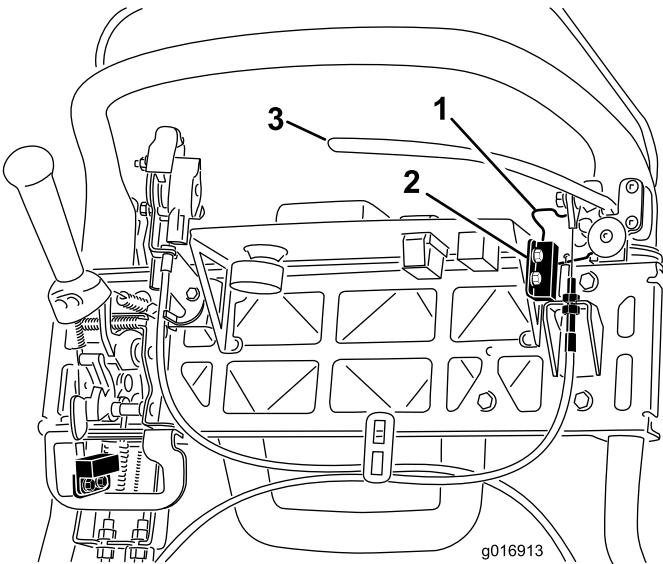

Figure 40
4. Loosen the interlock switch mounting fasteners (Figure 40).
5. Place a 1.6 mm (.062 inch) thick shim between the parking brake latch and the interlock switch (Figure 40 ).